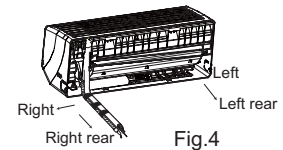

Fig.4
2. Take out the piping from body case, wrap the piping, power cords, drain hose with the tape and make them through the piping hole. (As shown in Fig.4)